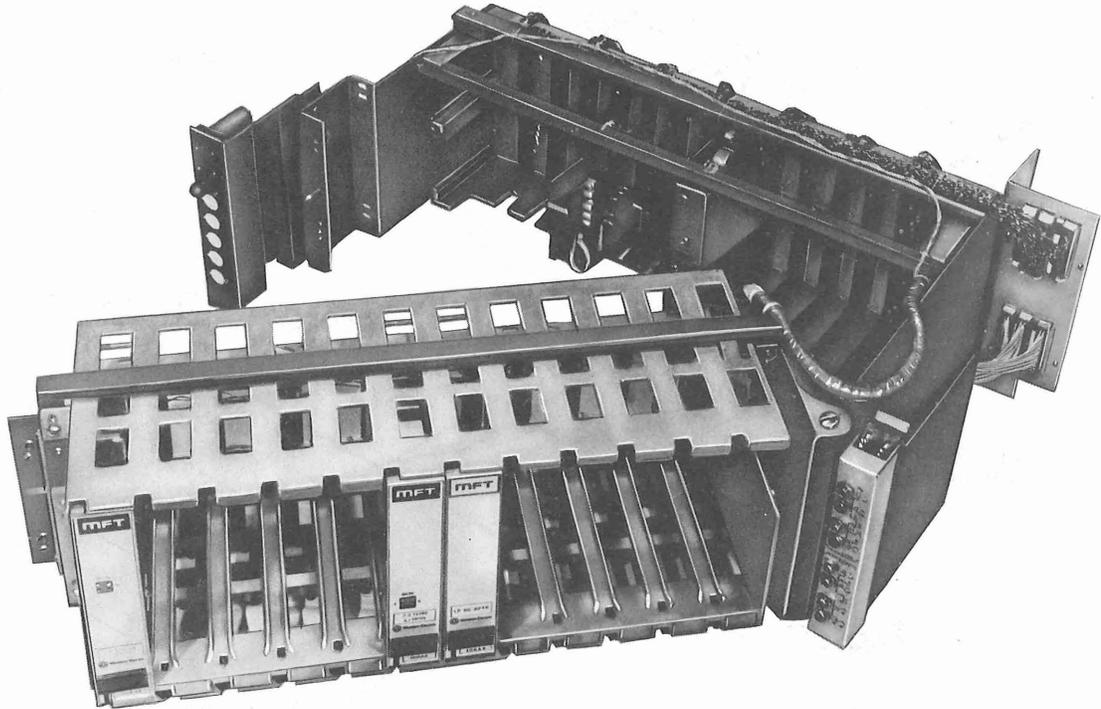

Fig. 13—J99380D Double-Depth Mounting Frame
4.25 The J99380D double-depth mounting frame, Fig. 13, was designed to better utilize space available in the DIMENSION PBX cabinet. The front/rear swing frame assembly is made such that the front position mounting may be opened exposing the rear position mounting.